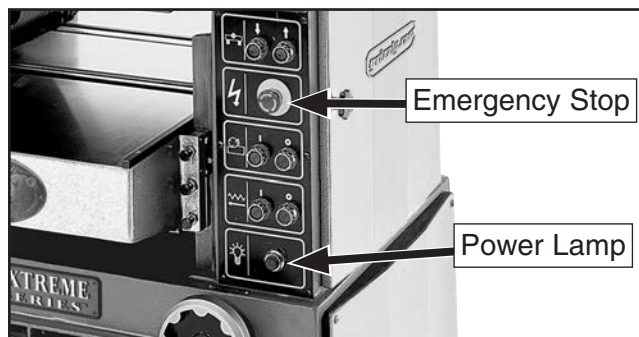
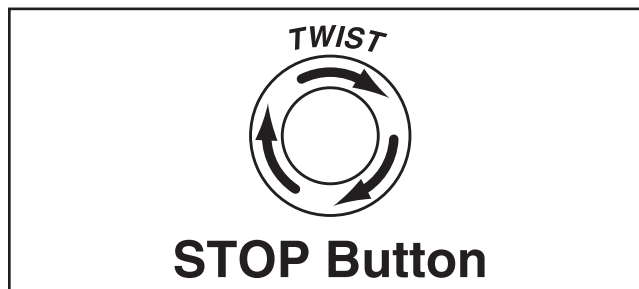

Figure 2. Location of power lamp.
Figure 3. Resetting Emergency Stop Button.
3. Push Emergency Stop button (see **Figure 2**) in, then twist it clockwise so it pops out (see **Figure 3**). Power lamp will illuminate. When STOP button pops out, switch is reset, and machine is ready for operation.